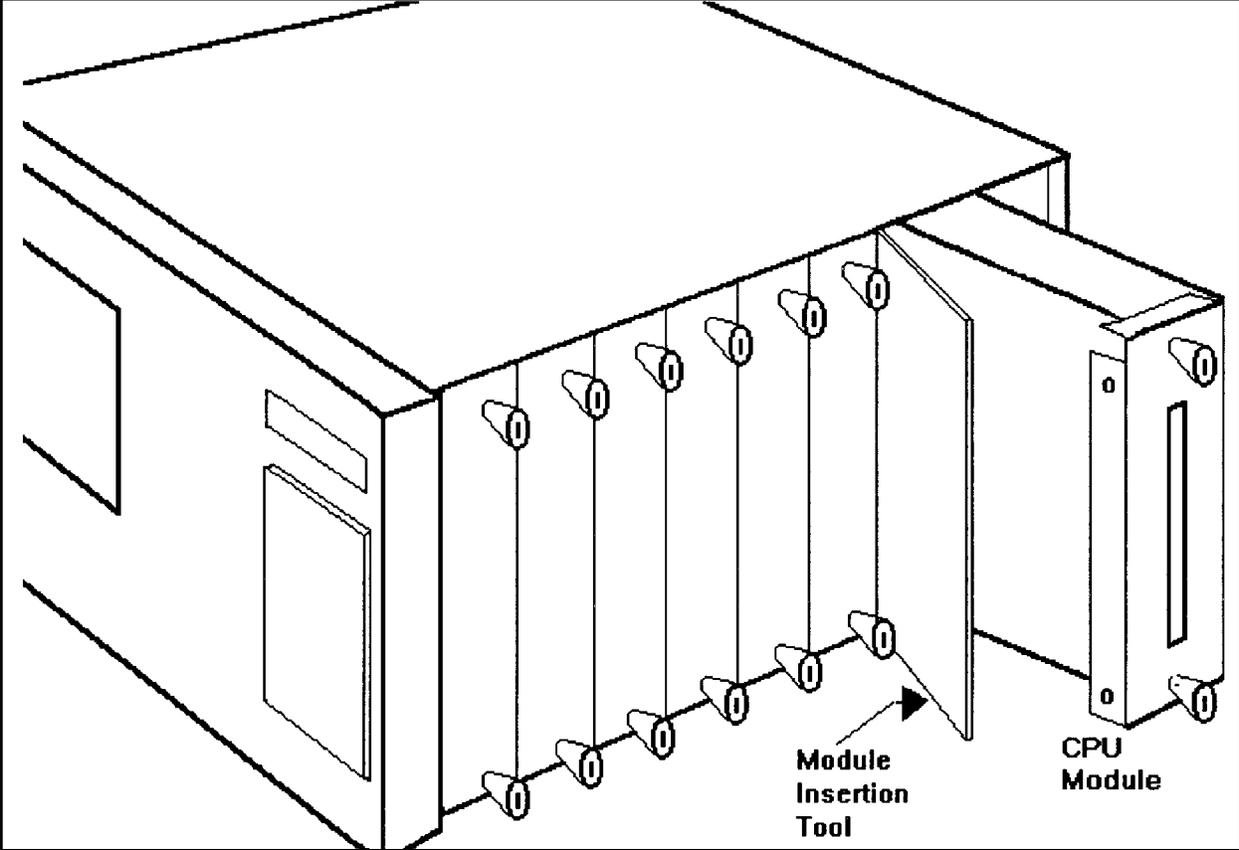

Figure 1 Position of Processor Module and Insertion Tool
5. Remove the clamp screws on the top and bottom right-hand side of the chassis which secure the CPU Module (see Fig 1).
To prevent removal of, or damage to the metal RFI STRIP on the module next to the CPU, you **MUST** use special tool part number 03776-00016 or a thin LOW-STATIC plastic or fibre card (200mm x 135mm x 0.5mm) when inserting the CPU module back into the instrument. Place this card against the RFI Strip, then slide the CPU Module back into the instrument. Push the CPU Module fully home, then pull out the card - see Figure 1.